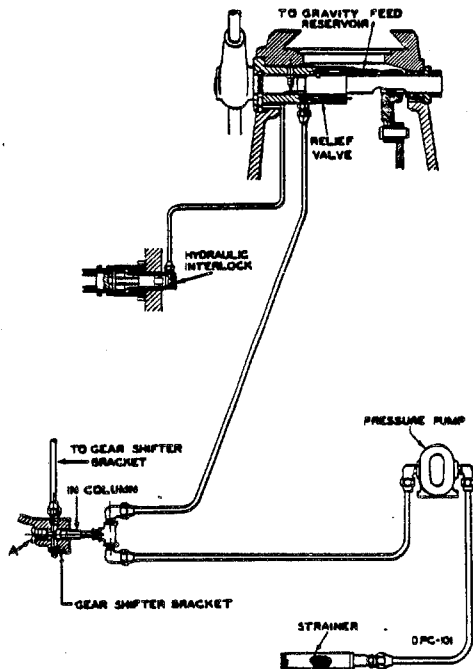

Figure 30
1. Remove screw plug "A", Fig. 30, at bottom of gear shifter bracket. Screw at least a 500 lb. hydraulic gage in this connection. This is a $\frac{3}{4}$ -16 R. H. tapped hole and requires a special fitting, or drill and tap $\frac{1}{4}$ " pipe thread through plug "A" for gage.